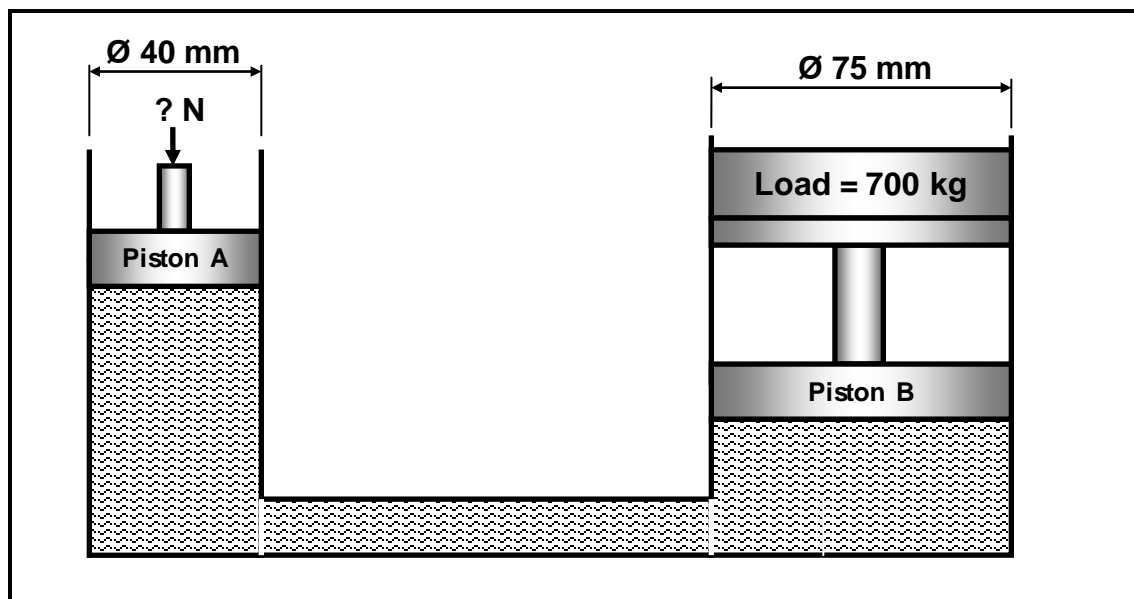

FIGURE 9.3
- 9.3 A hydraulic system is represented diagrammatically in FIGURE 9.3.